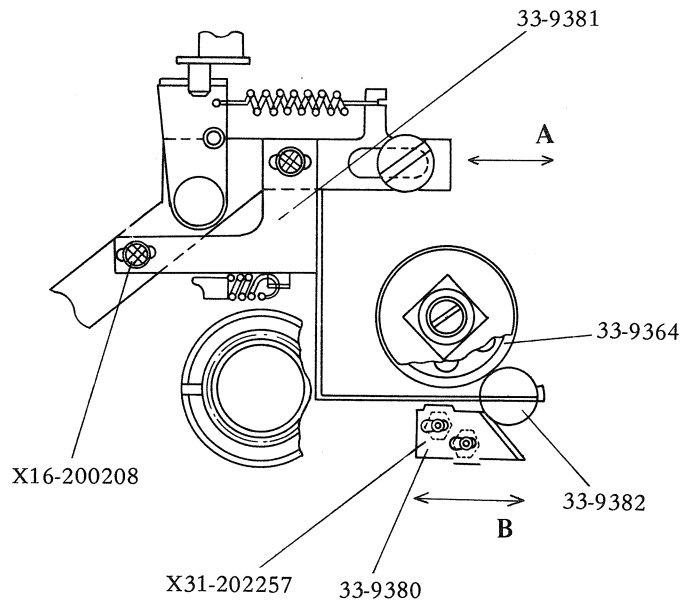

Fig. 10
1. To adjust, loosen the Screw (X16-200208) and slide the Brake Plate (33-9381) in the direction of the arrow "A" (Fig. 10).